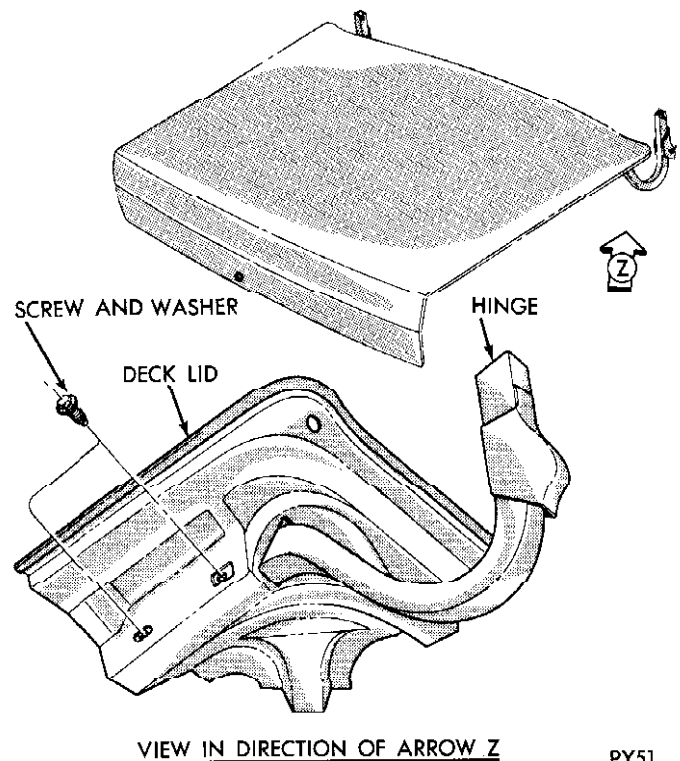

Fig. 46—Deck Lid Hinge
The deck lid hinges (Fig. 46) permit only a very slight adjustment at the deck lid to hinge attaching points.
- (1) Remove the deck lid assembly.
- (2) Disengage the torsion bar roller from hinge being removed. Use care when disengaging torsion bar as it is under a load.
- (3) Remove spring nut (Fig. 46) retaining hinge to hinge bracket and remove hinge.
justment slot (Fig. 46).